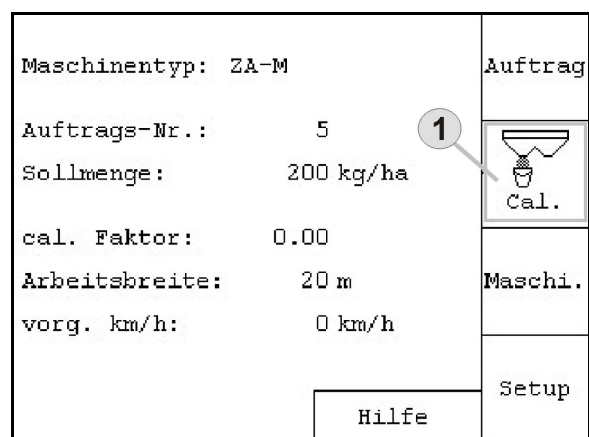

Fig. 39
- Main menu: call up Calibration menu (Fig. 39/1).